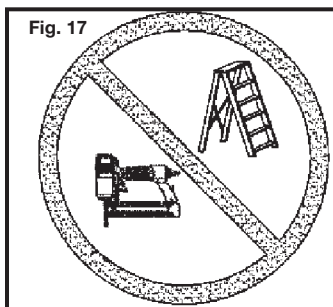

Fig. 17
27. FOR TOOLS SET FOR CONTACT ACTUATION MODE, Do not use on scaffoldings or ladders or for tasks in which changing location involves the use of scaffoldings, stairs, ladders, and the like. Do not use for specific tasks such as closing boxes or crates or fitting transportation safety systems on vehicles and wagons. Fig. 17.